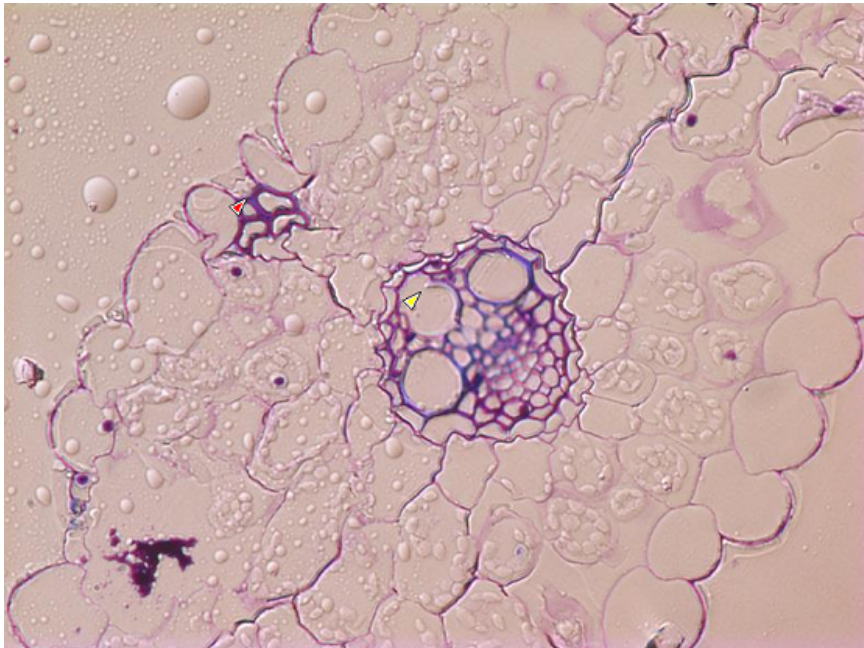

Figure 6.52: Setting landmarks with Align Slices
- Place the landmarks as shown in the Figure 6.52. Make use of the double-click method.